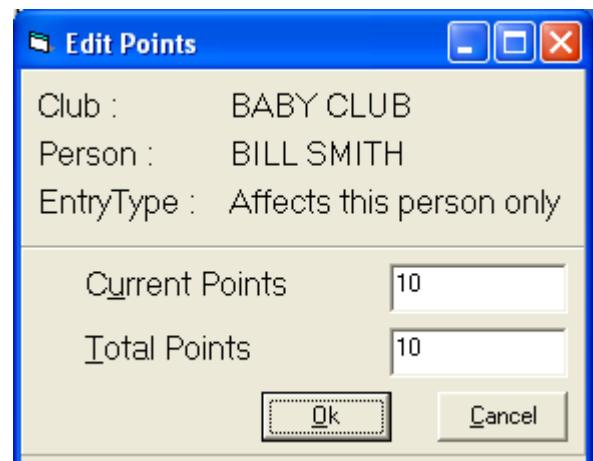

Figure 384
- Selecting the '**Edit**' button permits you to edit the customer's current point balance and also the total points balance (see Figure 384). You may wish to give customer bonus points for joining the club.